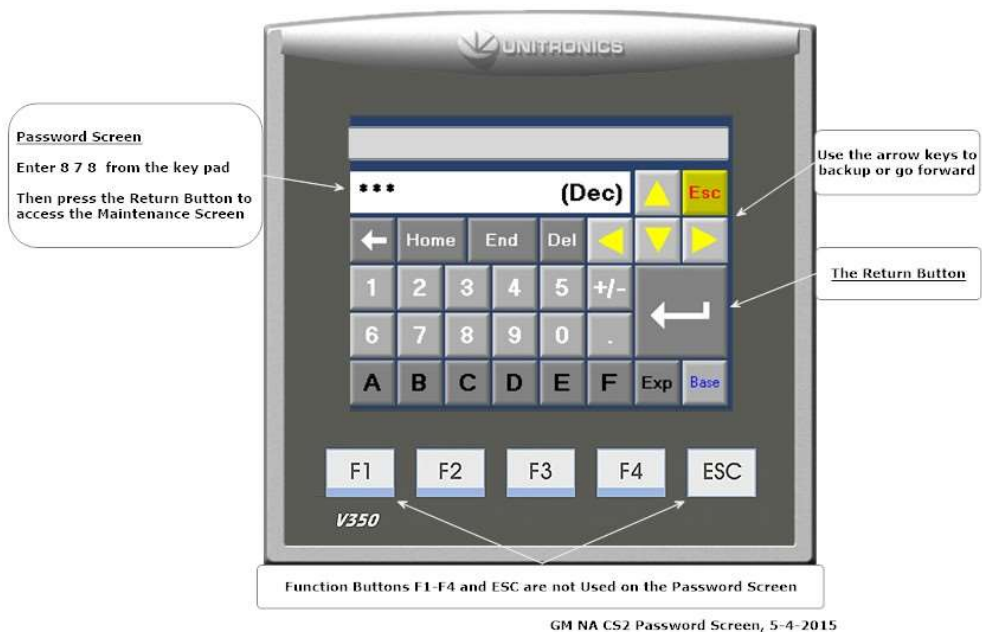

Figure 10-4: Password Screen
2. Enter 878 on the Password Screen (**See Figure 10-4**), then push the Return button on the right-hand side of the screen.